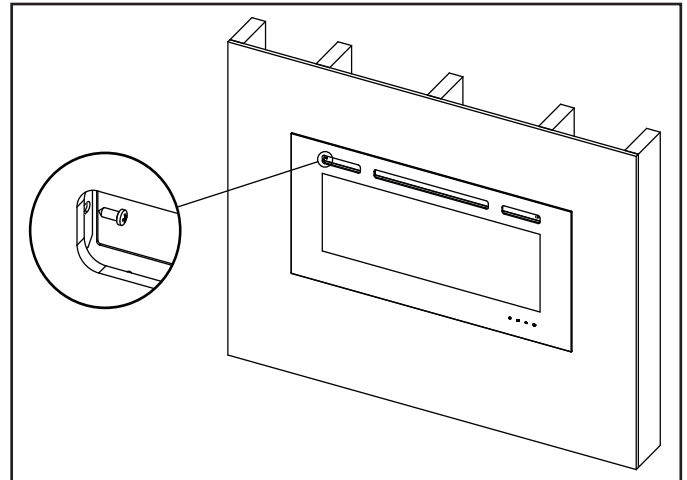

Figure 4.18 Secure Glass Front
3. Thread the two (2) ST3X8 screws into the threaded holes on the glass panel. Check the alignment of the glass panel and securely tighten the screws. See Figure 4.18.